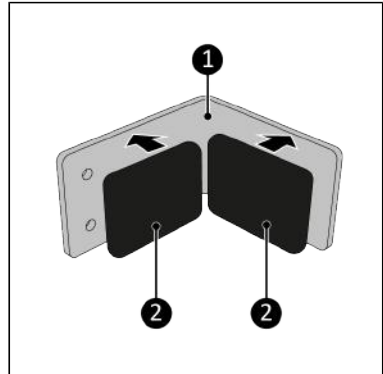

Figure 55.
4. Stick the two 40 x 45 mm anti-slip foams (Figure 55, pos. 2) on the insides of the top part of the bracket (Figure 55, pos. 1).